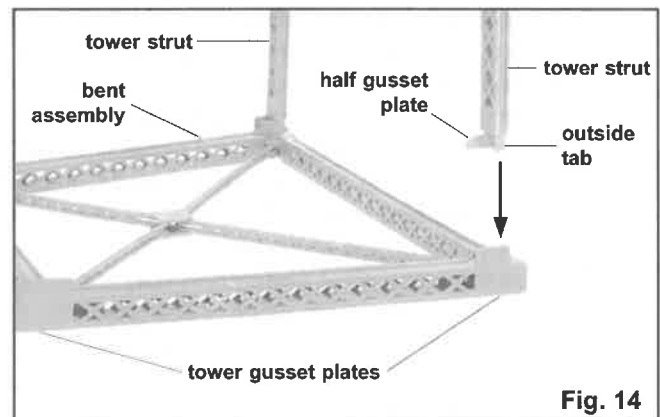

Fig. 14
a. Lay a bent assembly flat on the work surface with the gusset plate extensions up. Holding a tower strut vertically, place its end on the bent assembly, with its gusset plate to the inside. See fig. 14. The two tower struts with half gusset plates are used at the bottom of the bent, with the half gusset plates toward the top of the bent assembly.
c. Put cement only on the outside tab of the tower strut and press this tab against the inside of the tower gusset plate with tweezers. See fig. 14.